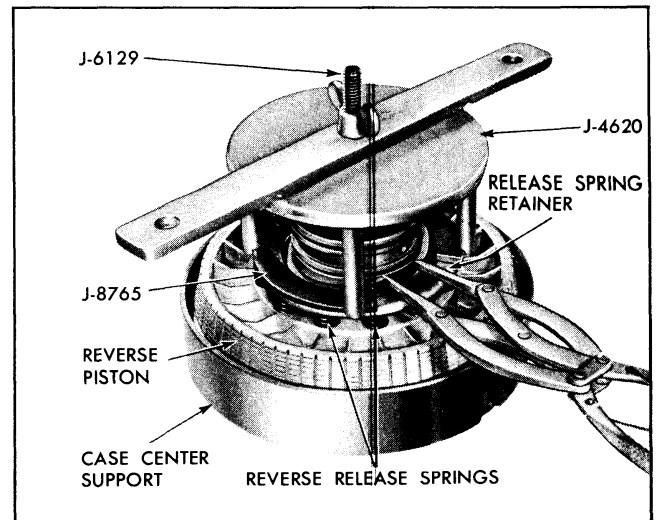

Fig. 7C-84 Removing Reverse Release Spring Retainer Snap Ring
2. Using tools J-8765, J-6129 and J-4670-B, remove reverse release spring retainer snap ring. Center tool and position ring gap between legs (Fig. 7C-84).